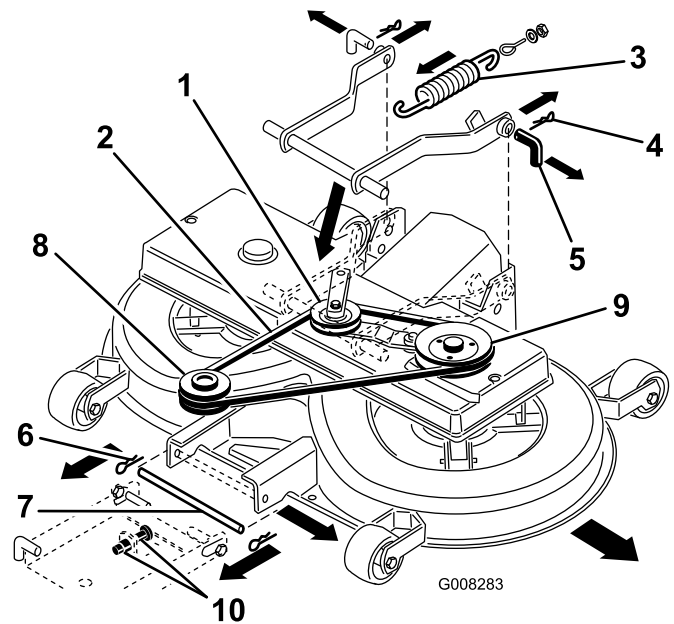

Figure 39
8. Pull the idler arm assembly in and remove the V-belt from the pulley (Figure 39).
9. Disconnect the spring from the engagement lever (Figure 39).
11. Remove the hairpin clips from the 2 rear pins and remove the pins (Figure 39).
12. Remove the hairpin clip from the front pin and remove the pin (Figure 39).
13. Remove the V-belt from the engine pulley (Figure 39).
7. Move the lower pin of the front adjustment suspension into the bottom position of the slotted holes by adjusting the 2 nuts (M12) on the front suspension (Figure 39).